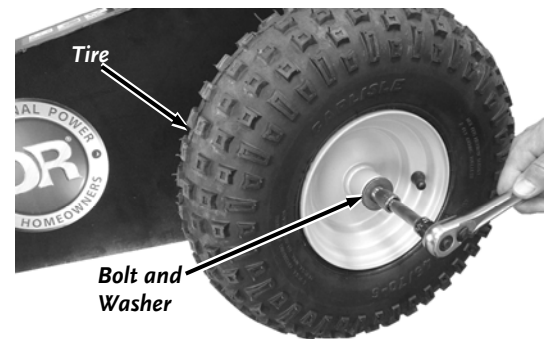

Figure 20
1. With the Stump Grinder on the ground, remove the Bolt, Lock Washer and Large Flat Washer from the Axle with a 1/2" Wrench (**Figure 20**).